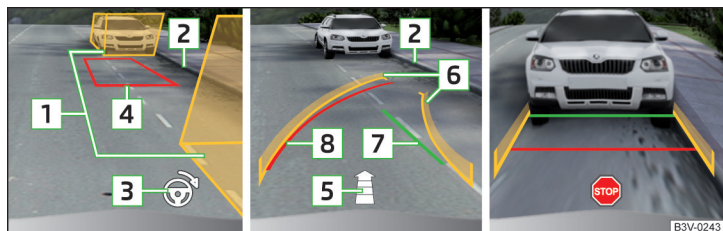

Fig. 266 Screen display
- › Stop the vehicle stop so that there are no obstructions in the gap between the auxiliary boxes **1** » Fig. 266 and the rear box does not extend over the side of the parking space **2** (e.g. kerb).